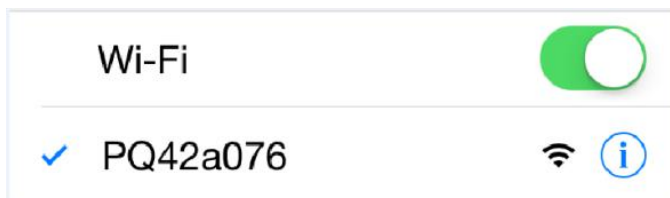

Fig. 4-1 WIFI hotspot of Sinexcel AHF
(1) Close disconnecting switch between power grid and Active Harmonic Filter to electrify the machine.
(2) Turn on WIFI of mobile phone, tablet and PC and add the hotspot. The hotspot name is “PQ+6 random letters” (e.g.: PQ42a076), as shown in Fig. 4-1. The initial password of the hotspot is 08080808.